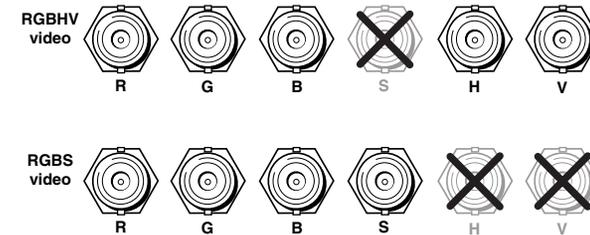

Figure 5 — Output connections
- ④ **Output connectors** — Connect an RGBHV or RGBS display to these female BNC connectors. Use high-resolution cable, such as Extron's BNC-4 or BNC-5 mini HR, RG59/HR, or RG6/SHR cable. Connect the display as shown in figure 5.